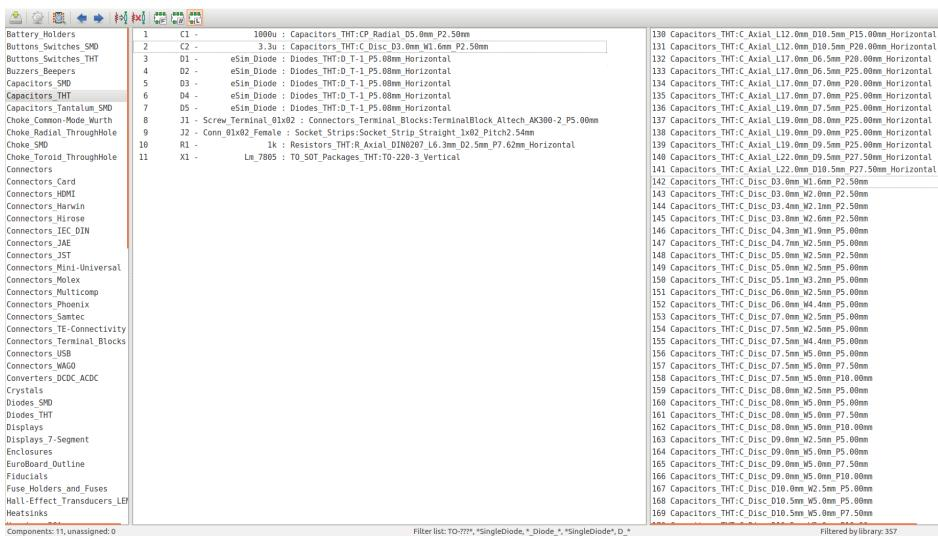

Figure 12.8: Footprint mapping completed for the circuit
- Similarly choose the footprints per Fig. 12.8 where the footprint association for all the footprints is shown in Fig. 12.8. Save the footprint association by clicking on the **Save footprint association in schematic component footprint fields** tool from the CvPcb toolbar.